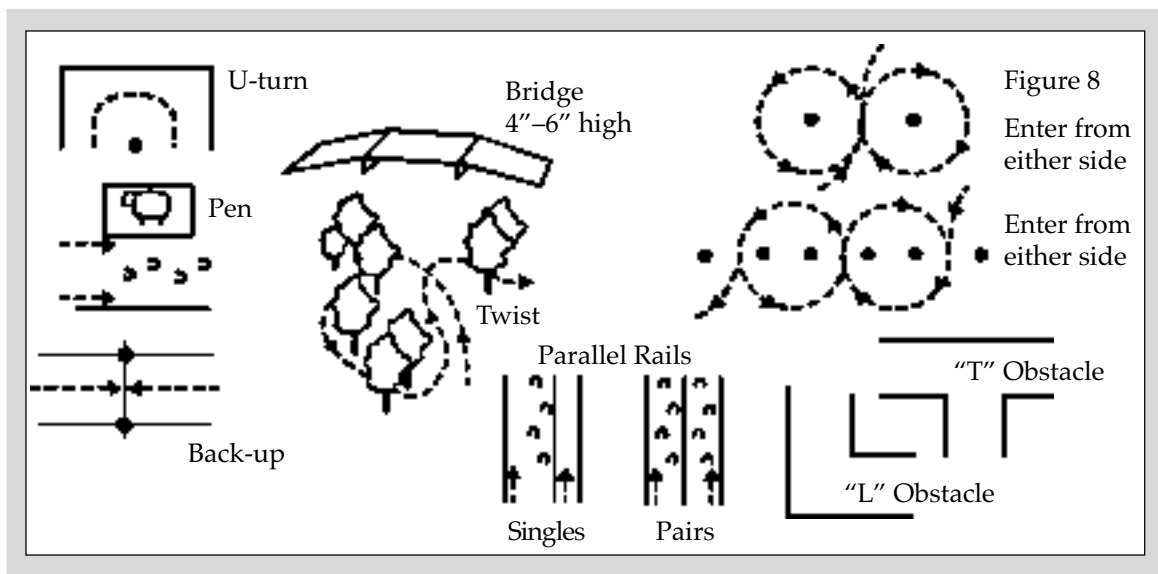
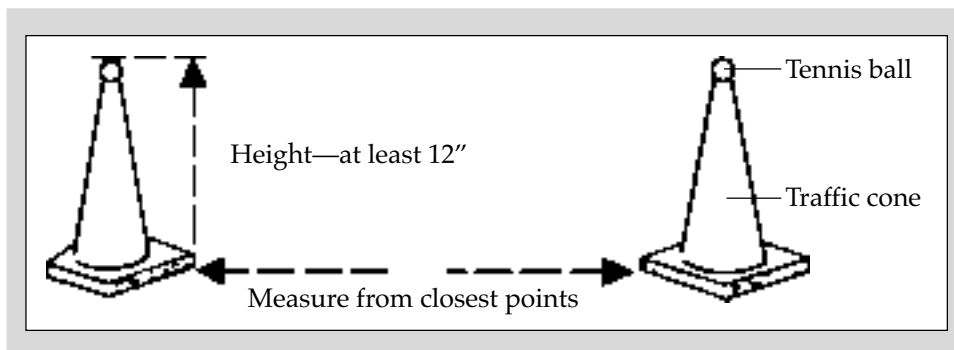

Figure 3. Examples of Obstacles.
Figure 4. Illustration of Cones.
Competitors will be required to drive over a course consisting of six (6) to eight (8) obstacles (see Figure 3). The course will be irregular, necessitating changes of direction. Markers indicating obstacles will be at least 12 inches wider than the outside hub of the wheels of each vehicle. Markers indicating obstacles will be at least 12 inches high. (Traffic cones with tennis balls on top work well—see Figure 4). Lanes may be defined by rails at least three (3) inches in diameter.